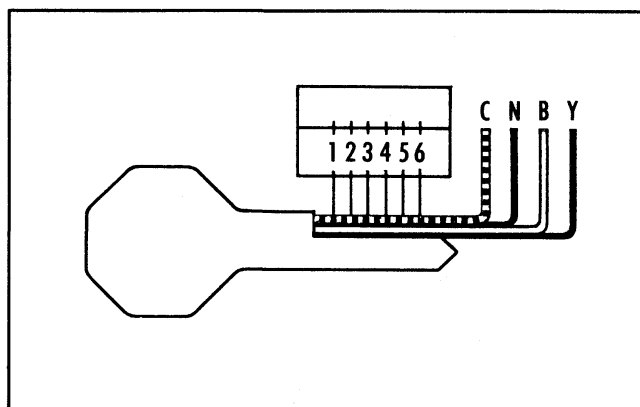

Fig. 1-5 Key Coding Diagram
1. Place key on diagram (Fig. 1-5) with bottom, head and point aligned.